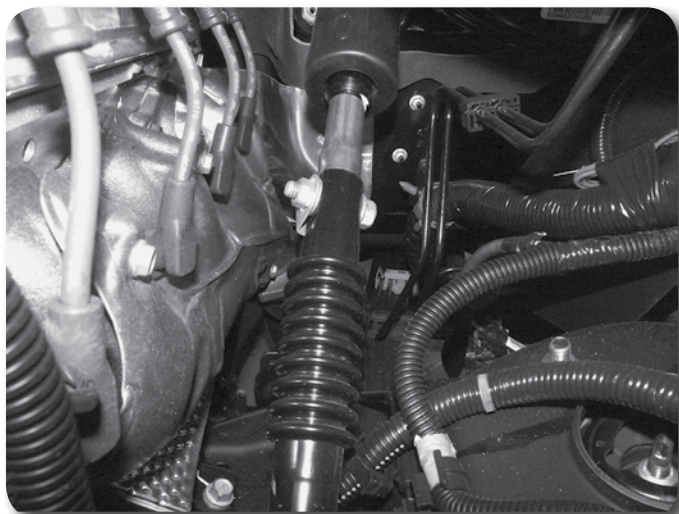

Figure 9
14. Lock the steering wheel. Mark the relationship between the upper and lower halves of the steering shaft. **Figure 9**. Remove the bolt and pull the steering shaft apart. The upper steering column will collapse into the firewall. Save hardware.